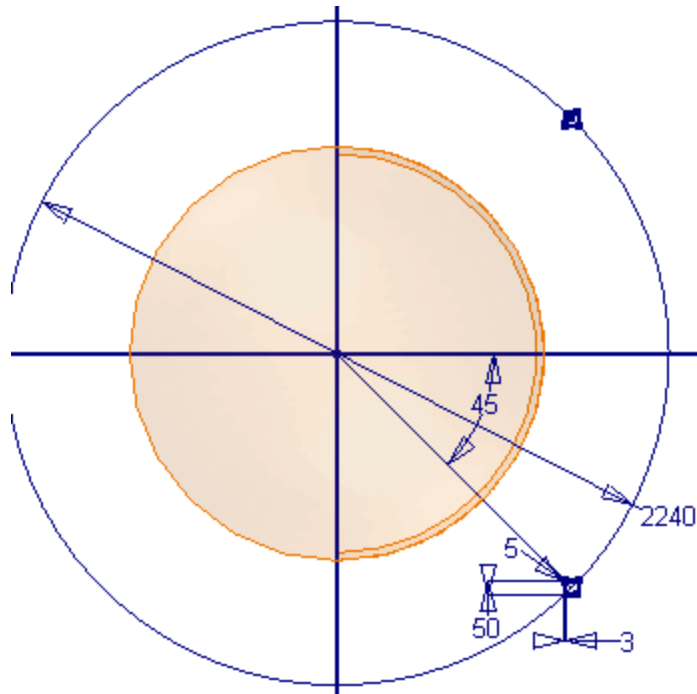

Figure 3: Vertical legs sketch.
5. Drag the End of Part marker below the VERTICAL LEGS SKETCH node in the browser. Use the Look At tool to reorient your view to a plan view of this sketch as shown in Figure 3.